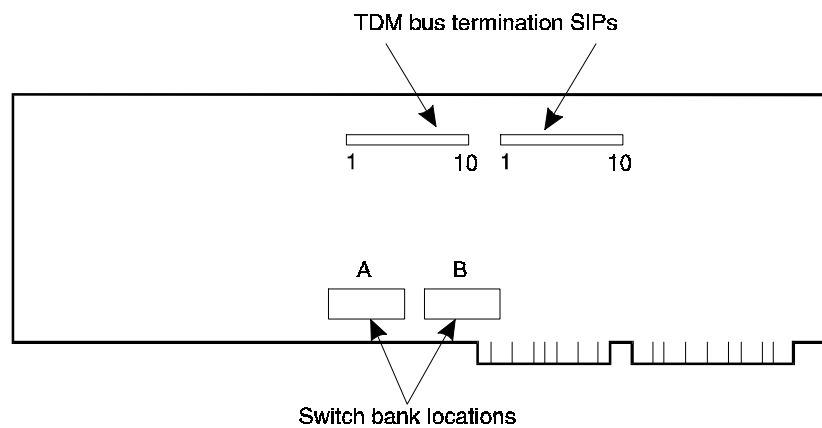

Figure D-49. Location of Switch Banks A and B on the VRS6 (AYC1) T/R Circuit Card
- VRS6 (AYC1) — see Figure D-49